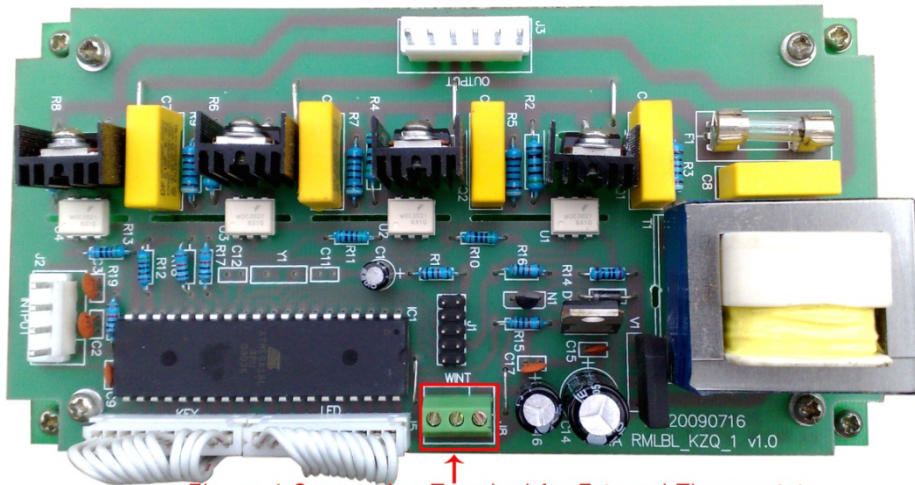

Figure 4. Connection Terminal for External Thermostat
- Strip insulation from thermostat wires and connect to the screw terminal on the rear of the control panel (see Figure 4).